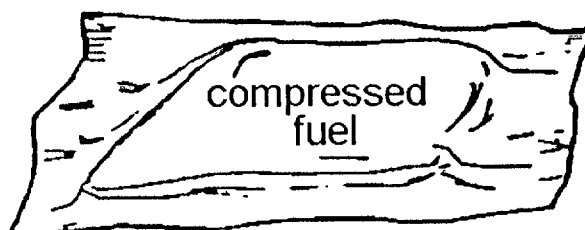

Figure 2-33. Compressed Trioxane Fuel
- k. Compressed Trioxane Fuel. Each block of trioxane fuel (See Figure 2-33) is sealed in aluminum foil and packaged in a box that contains instructions on fuel bar use.